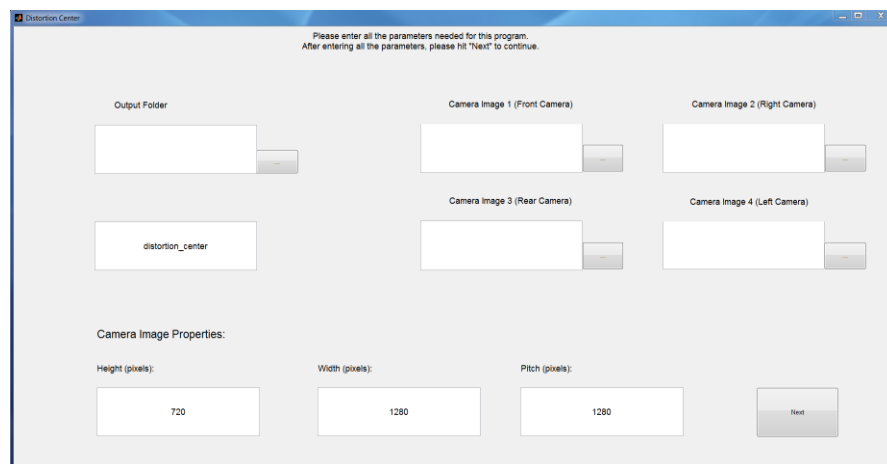

Figure 18 – Fisheye Tool starting window
1. By running "fisheye\_tool.exe" in folder ./fisheye\_tool/, first you will see the windows shown in Figure 18. It will ask you to select input file, output folder and output filename. Choose output folder to be the same as where the camera images are located. Also, specify the height, width and pitch of the input camera images, if they differ from the default values.